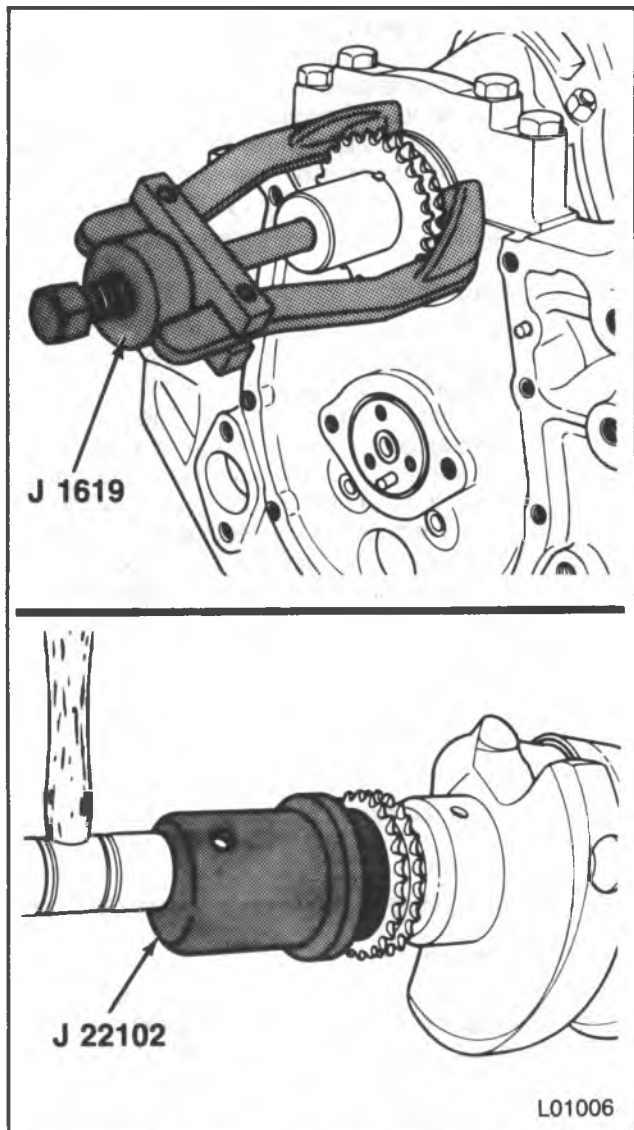

Figure 25 — Replacing the Crankshaft Sprocket
19. Crankshaft sprocket (if required). Use J 1619 (figure 25).
3. Crankshaft sprocket (if removed). Use J 22102 (figure 25). Make sure the timing mark faces outside.